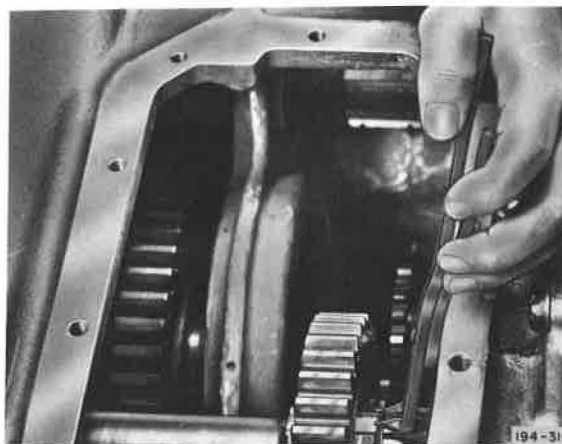

Figure 5-197. Installing P. T. O. Gear Front Snap Ring
11. Position power-take-off gear on countershaft splines, then install gear front snap ring in groove provided to retain gear. See Figure 5-197.